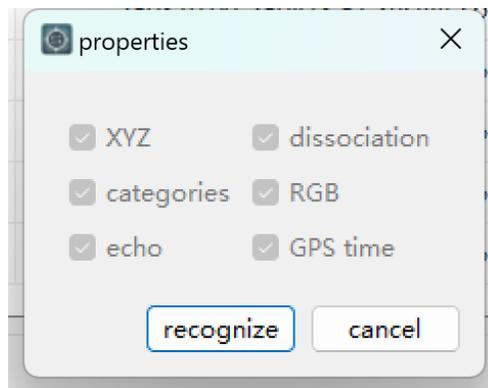

Figure 3-123 Point cloud format conversion properties
- (1) Click menu <Tools> → <Point Cloud Format Conversion>.
- (2) The point cloud list lists the point cloud files loaded in the current software, check the files that need to be formatted,
- (3) The <Merge and Export> check box can be set to whether to merge multiple input files for export, and you can select the format of the exported files, the format version and the path of the exported files below.
- (4) Click the <Properties> button, you can select the properties of the exported file.
- (5) Click <OK> to complete the export (Figure 3-123).